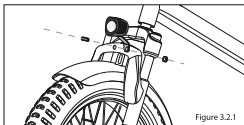

Figure 3.2.1
2. **Step 2:** Install the headlights and mudguard onto the front fork using screws and nuts from the fitting. (**As: Figure 3.2.1 & 3.2.2**).